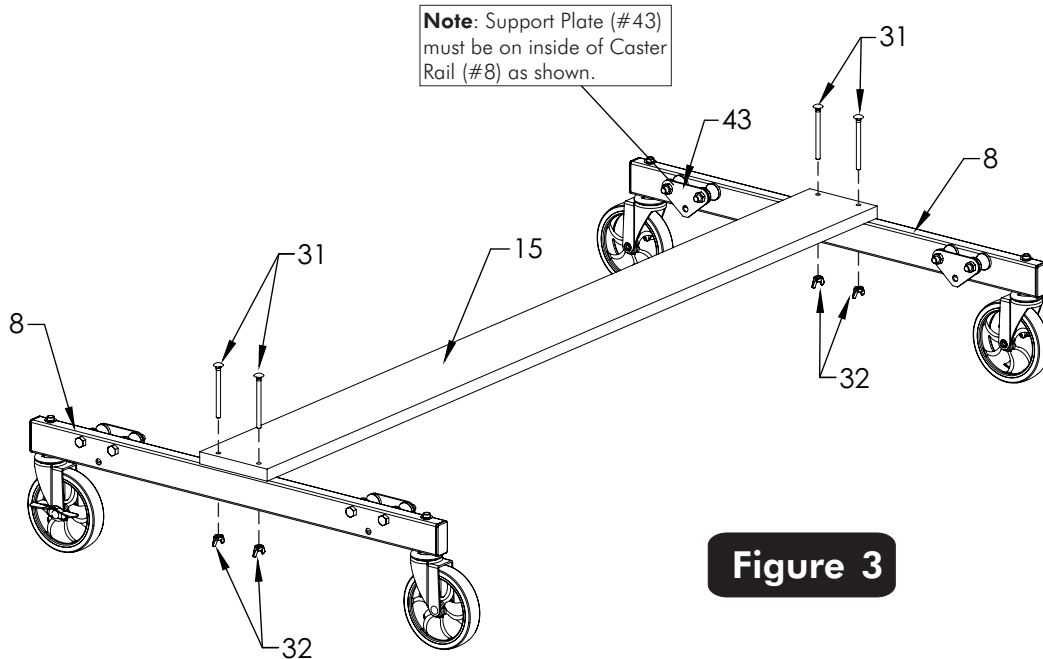

Figure 3
3. Attach Wood Bottom Board (#15) to Caster Beam Assemblies (#8) as shown in **Figure 3**. Turn Caster Beams as shown and attach board with four Carriage Bolts (#31) and four Wing Nuts (#32). Tighten Thumb Screws securely.